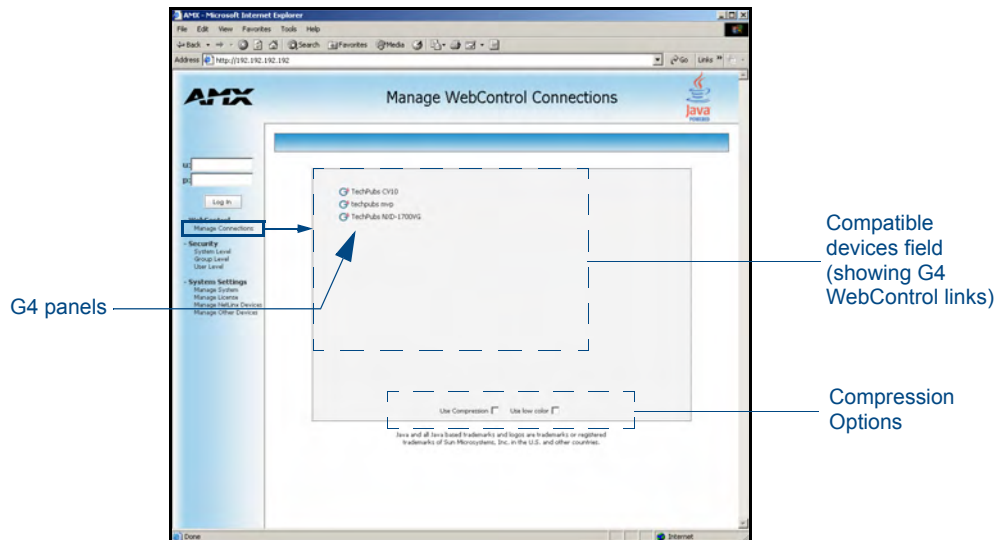

FIG. 74 Manage WebControl Connections page (populated with compatible panels)
- This Manage WebControl Connections page (FIG. 74) is accessed by clicking on the **Manage connections** link (*within the Web Control section within the Navigation frame*). Once activated, this page displays links to G4 panels running the latest G4 Web Control feature (*previously setup and activated on the panel*).